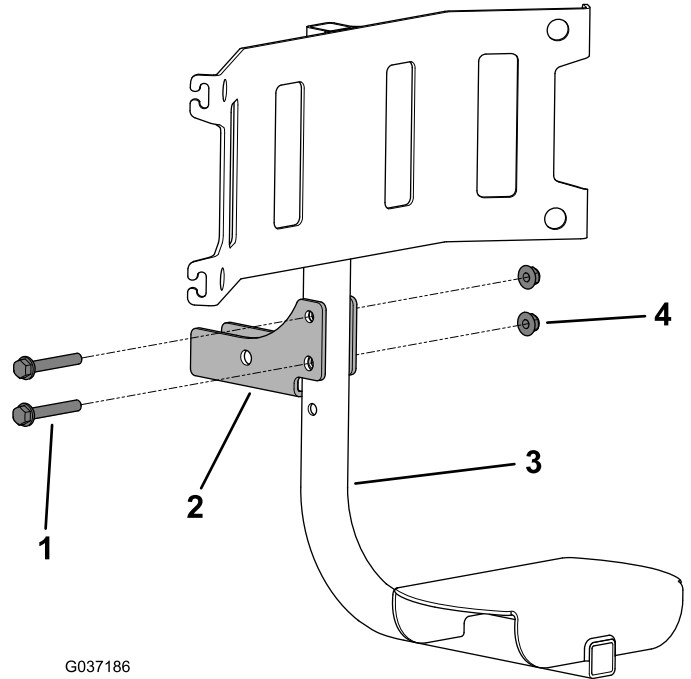

Figure 4
4. Install a pivot-mount bracket to a trash-can mount at the desired height using 2 hex-flange screws (3/8 x 2-1/2 inches) and 2 flange nuts (3/8 inch) as shown in Figure 4.